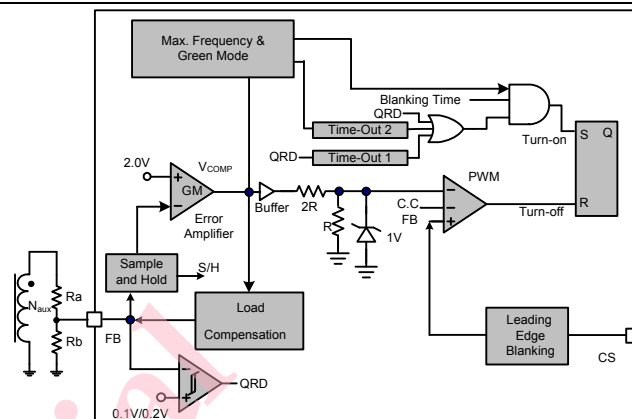

Fig. 20
The LD7513 employs quasi-resonant (QR) switching scheme to switch valley-mode either in CV or CC operation. This property feature greatly reduces the switching loss and dv/dt in the entire operating range for the power supply. Fig. 20 shows the typical QR detection block. The QR detection block will detect auxiliary winding signal to drive BJT as FB pin voltage drops to 0.1V. The QR comparator would not operate if FB pin voltage remains above 0.2V. The 4ms of time-out2 generates a BJT turn-on signal as the driver output drops to low level for more than 4ms with the falling edge of the driver output.
將 Fig 20 的 Vref 由 2.5 修正為 2.0V